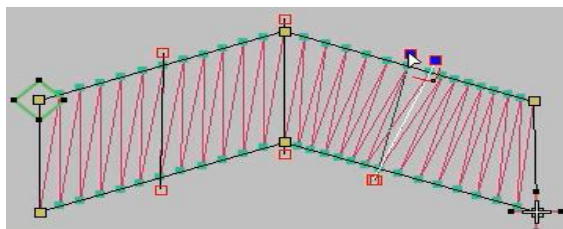

Figure 3
3.After clicking "Plastic" with the left mouse button, click on the small box on the angle line to adjust the angle line (as shown in Figure 3).